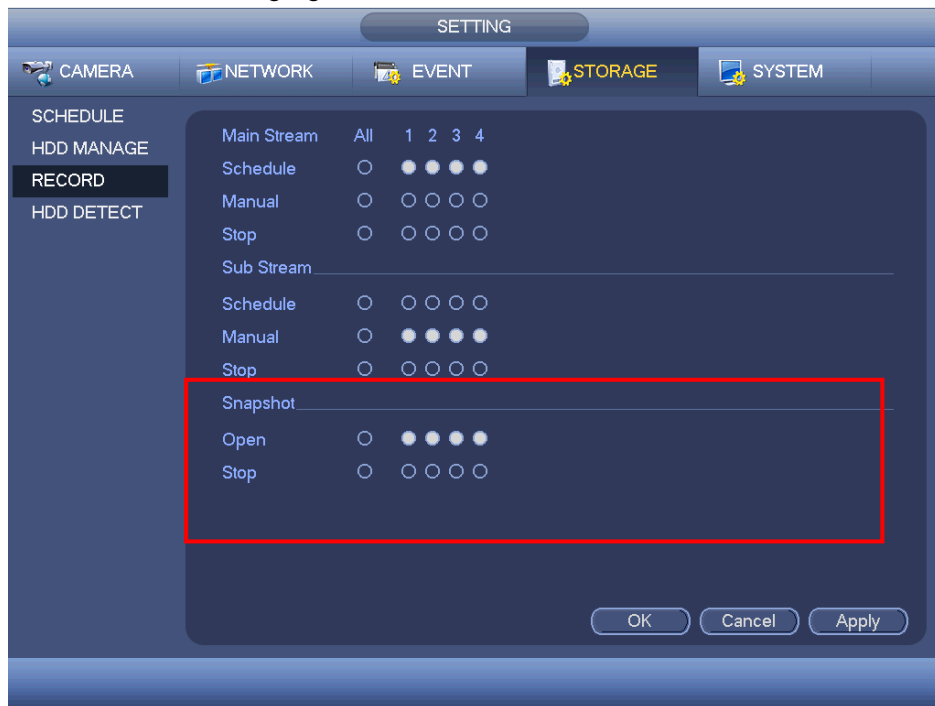

Figure 4-144
- On the preview interface, right click mouse and then select Manual->Record, or in the main menu, from Setting->Storage->Record, check the box to enable snapshot function of corresponding channels. See Figure 4-144.